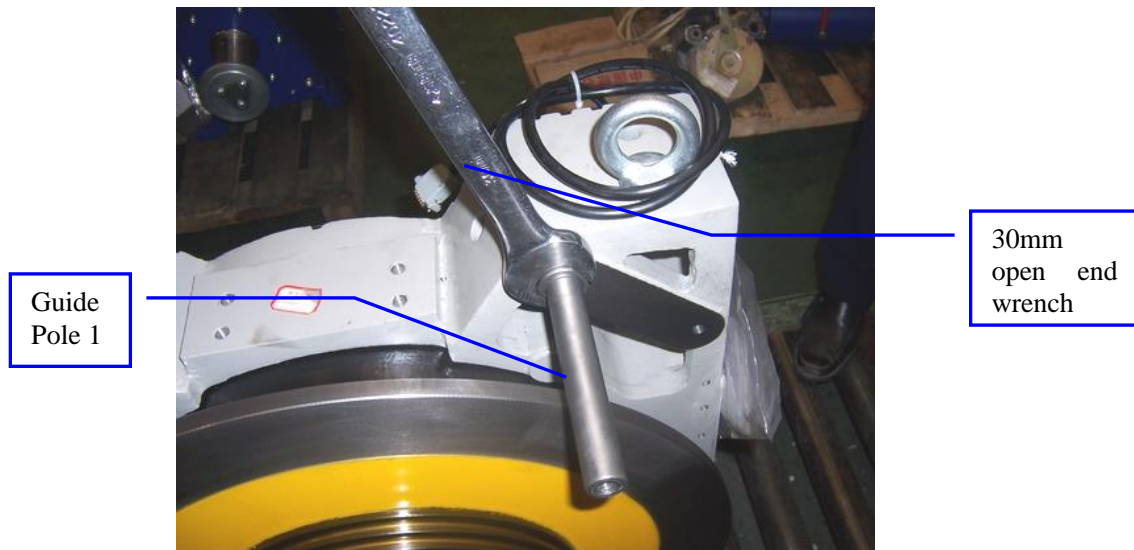

Figure 33: Remove guide pole 1
7. Use the open end wrench (30mm) to loosen and remove the guide pole 1. See Figure 33.